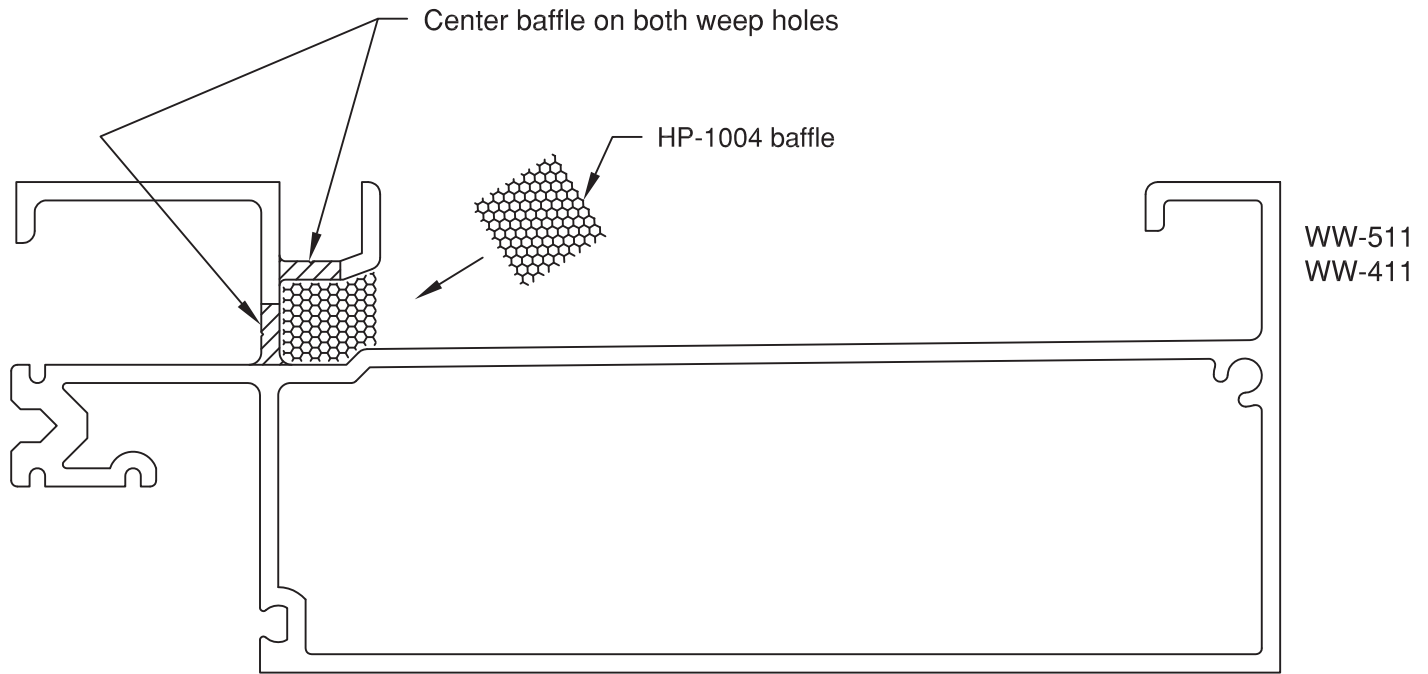

Figure 36
D.5 Install air baffle at weep hole locations. **SEE FIGURE 36.**